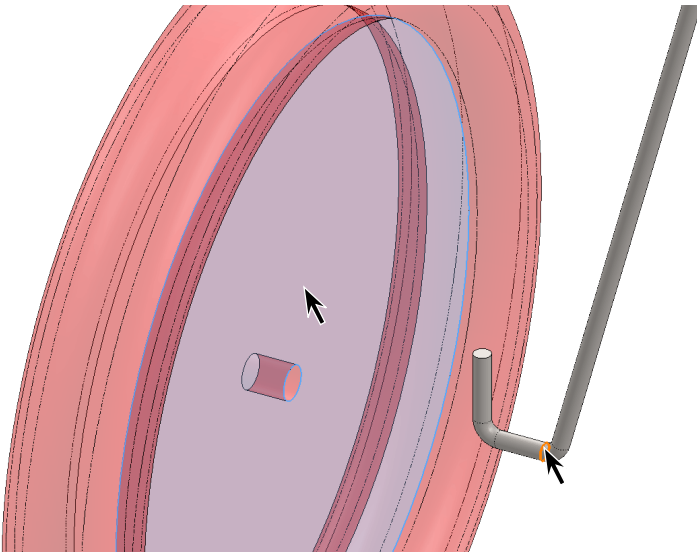

Fig. 10
Step 5. Click **side face of wheel and edge of horizontal section of wire**, **Fig. 10**.